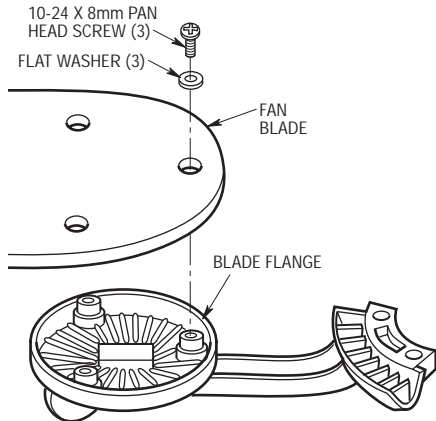

Figure 1
- 1. Mount the fan blades to the blade flanges using three 10-24 x 8mm pan head screws and three flat washers (screws and washers supplied) (Figure 1).